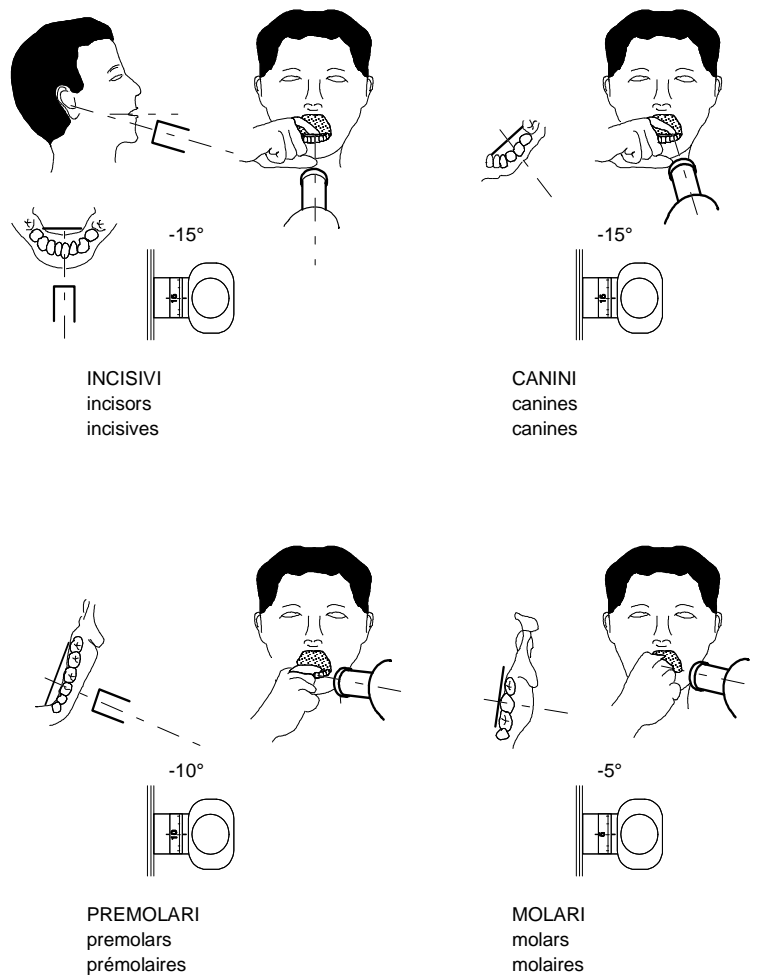
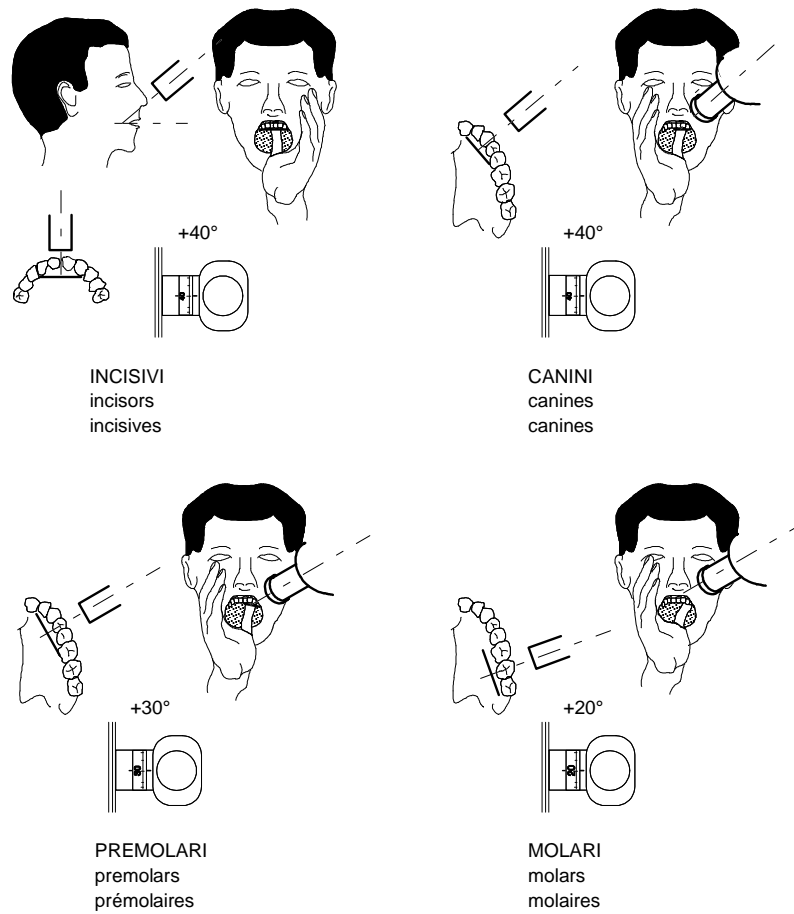
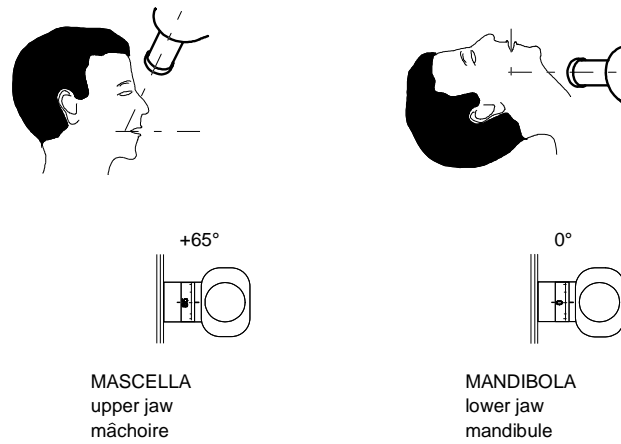
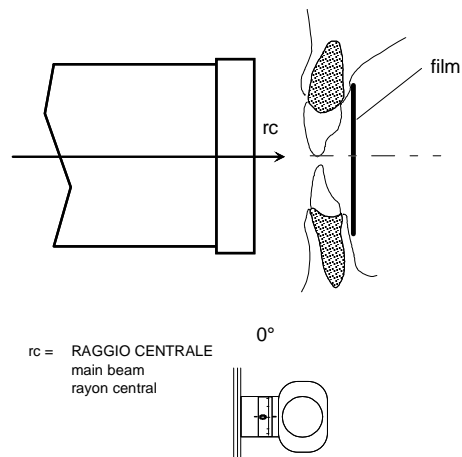

Figure 12
Figure 13
Figure 14
Figure 15
1. Position the tube-head with an angle suitable for the exposure and positioning required (see Figure 12, Figure 13, Figure 14, Figure 15).